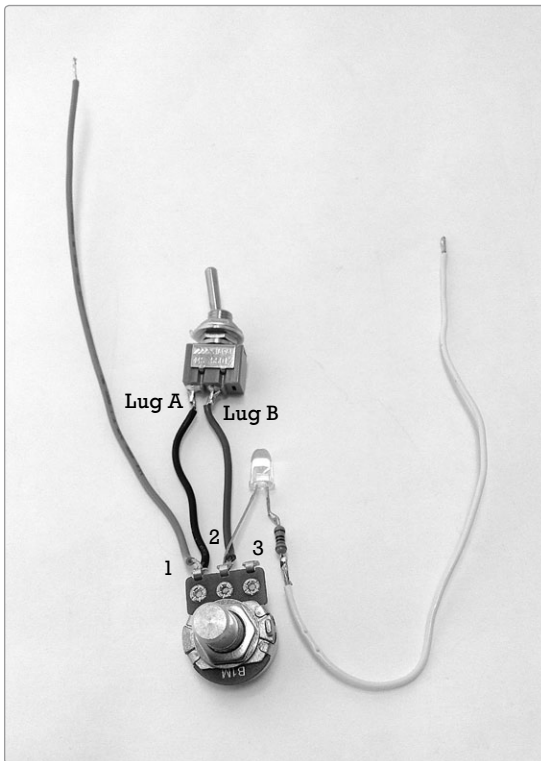

FIGURE 16-7: A single pitch controller. Contrasting wire makes it easier to keep the connections straight.
Prep the eight step controllers. Use your multimeter—or, barring that, a simple continuity tester circuit, like the “Super-Basic Continuity Tester” on page 357—to make sure all of your eight remaining SPST toggle switches are turned off. In the off position, the switch leans toward one lug; for example, in Figure 16-7, my switch is turned off and leaning toward the left lug. Let’s call this left lug—the one the switch is leaning toward when turned off—*Lug A*. On each switch, mark *Lug A* with a dot so you can easily orient the switches when building each step controller. (You’re going to be really annoyed later if you discover that you installed some switches backward.) The dot-free lug is now *Lug B*. Use your marker to number your eight 1M ohm pots 1 through 8, and you’re ready to start soldering.
*** NOTE:** In Figure 16-7, I’ve used four different colored wires (from left to right: red, black, green, and white). This minimizes the likelihood of wiring connections incorrectly. I strongly recommend using a similar color-coding scheme.
Step 5 Solder one 2-inch wire to each toggle switch lug and solder one 6-inch wire to one leg of the 220 ohm resistor (that's the white wire in Figure 16-7). Solder the other leg of this resistor to the positive leg of the LED, which is the longer one, *opposite* the flat area on the side of the LED body. Twist together the remaining (negative) LED leg and the 2-inch wire attached to switch Lug B. Solder this pair to pot lug 2, as shown in Figure 16-7. Then, twist the 2-inch wire attached to switch Lug A with the remaining 6-inch wire. Finally, solder this pair to lug 1 on the pot. *Ta-da!* Your first step controller is complete. Repeat seven times for a total of eight assemblies.